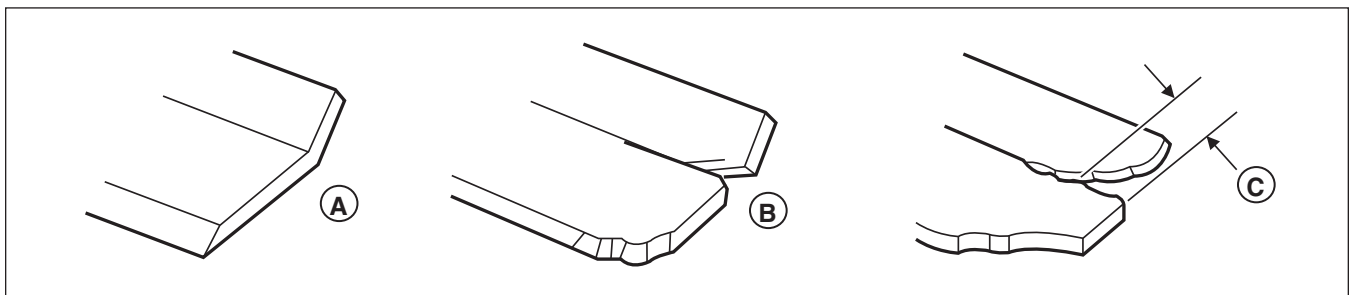

Figure 14. Inspecting the Mower Blade Air Lifts
- B.) The air lifts are excessively eroded (B & C, Figure 14) and the notch (C) is .25" (6,35 mm) deep or greater.